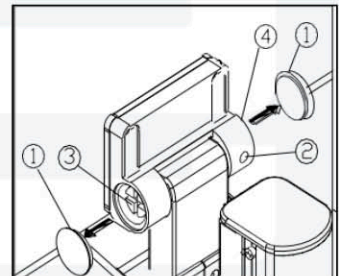

Fig.4
- Cuspidal tool opening the cap nuts (1) in two sides, Allen wrench screwing off the M3 hexagon screws (2) from the cap screws (4), and screwing flat nuts (4) to adjust tightness meanwhile Straight screwdriver keeping rotation axle (3) still. (See Fig. 4)
- Tightening two M3 hexagon screws (2), then put cap nuts back